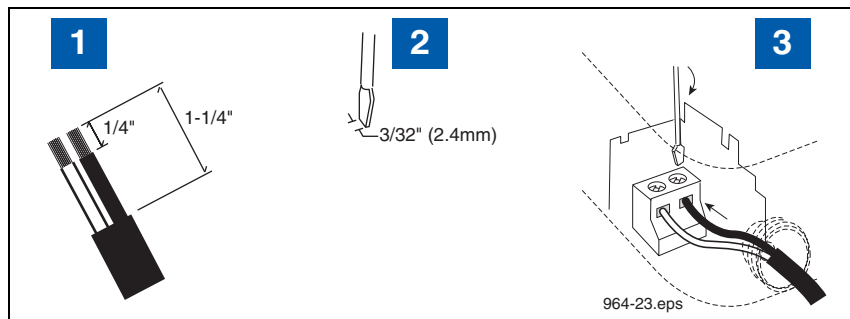

Figure 29. Connecting Input Wiring To Transmitter Terminal Blocks
4. Strip back cable jacket and wires as shown in Figure 29.
LEGEND FOR NUMBERED BOXES IN Figure 29
7. Strip back cable jacket and wires as shown in Figure 29.
5. Slide the nut over the cable. Choose the correct size bushing and slide it over the cable. Dress the cable jacket according to the dimensions in Figure 29. Insert the cable into the appropriate opening at the bottom of the housing. Insert each wire into the appropriate terminal and tighten. Leave a small amount of slack in each wire. Slide the bushing into the bottom of the housing. Hand tighten the nut.
9. Slide the nut over the cable. Choose the correct size bushing and slide it over the cable. Dress the cable jacket according to the dimensions in Figure 29. Insert the cable into the appropriate opening at the bottom of the housing. Insert each wire into the appropriate terminal and tighten. Leave a small amount of slack in each wire. Slide the bushing into the bottom of the housing. Hand tighten the nut.